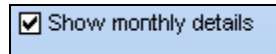

Figure 28.0.9
- Click on the **Show monthly details** button if you want your report to show Calculations for each day of the month selected in the report (Figure 28.0.9).